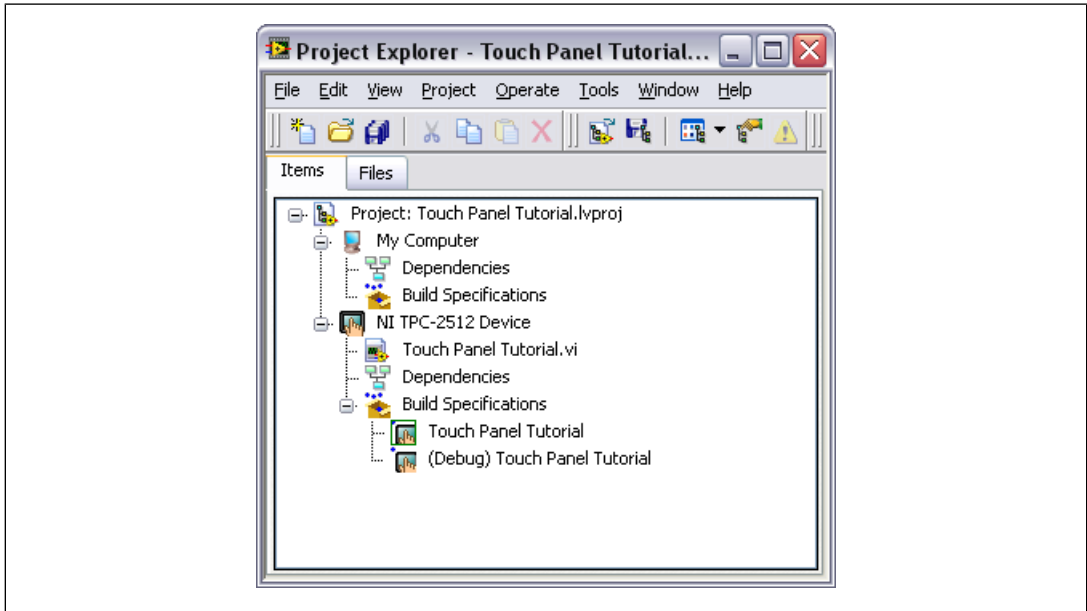

Figure 19. Two Build Specifications in the Project Explorer Window
- Click the **OK** button. The build specification you created appears in the **Project Explorer** window, as shown in Figure 19.